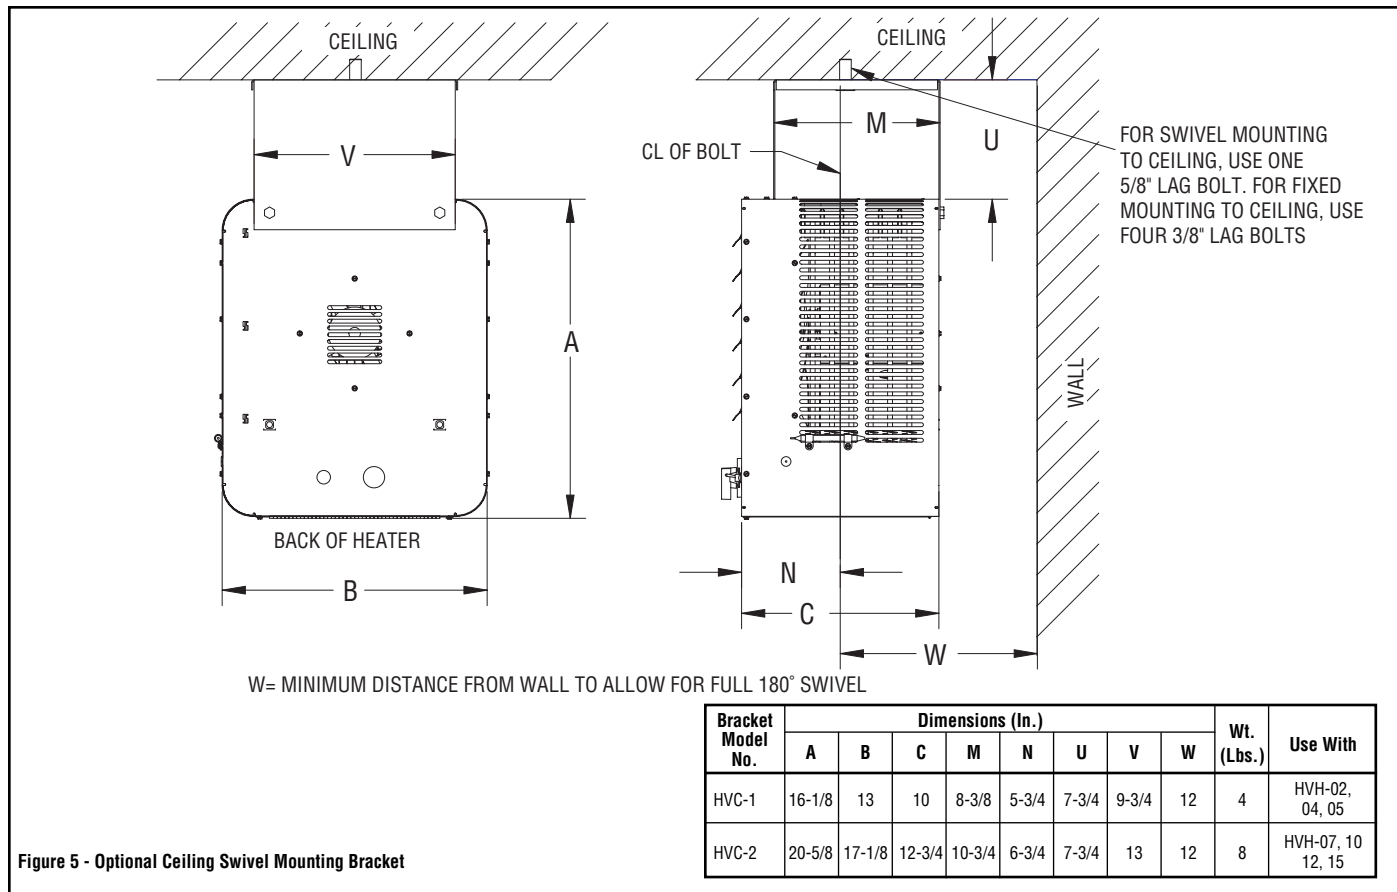

Figure 5 - Optional Ceiling Swivel Mounting Bracket
- B. For ceiling heights of 12 feet or less, maximum mounting height is determined by the use of the mounting bracket offered for these heaters. Minimum spacing to ceiling is 7-3/4". (See Figure 5)
### CEILING – Horizontal Airflow (See Figure 5):
The heater may be rotated to discharge in the desired direction. Open and adjust louvers to desired position. See Figure 5 and 6 for additional mounting details.